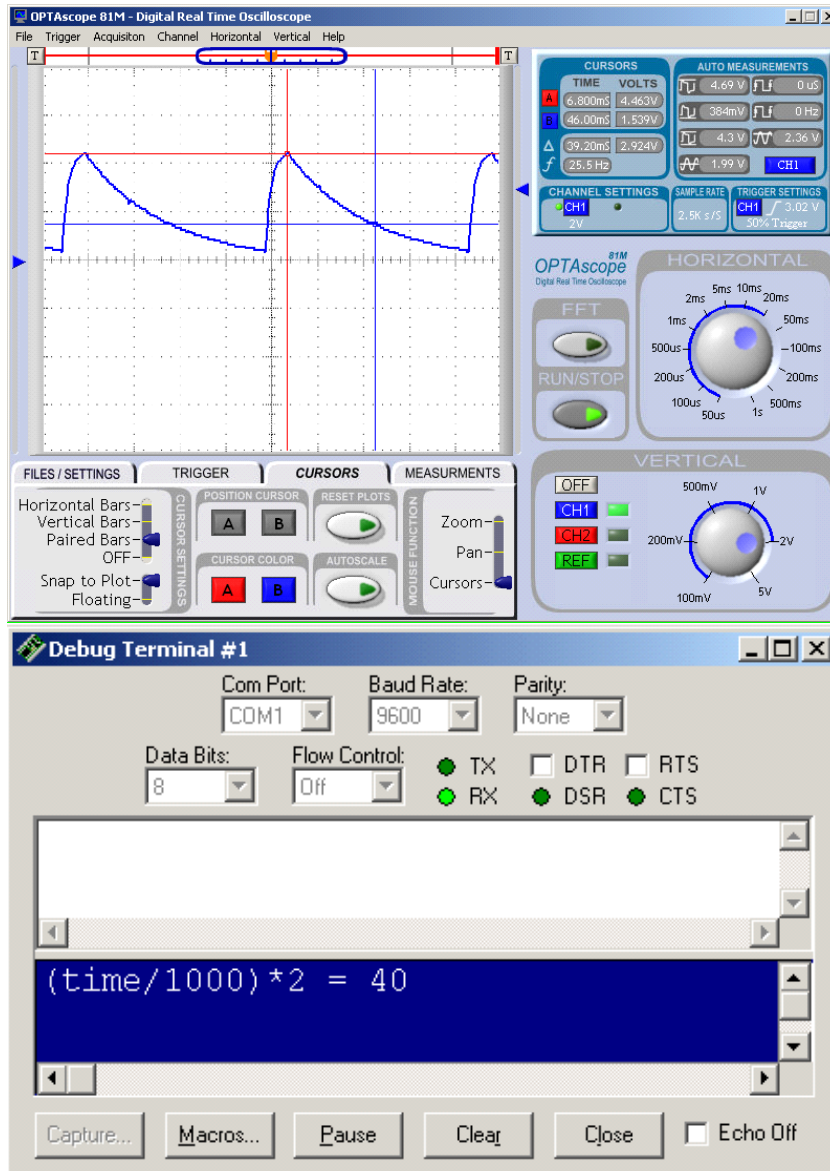

Figure 4-12: Using the Paired Bars cursors to measure capacitor discharge time
- √ Configure, resize, and reposition your PC display so the OPTAscope software is running side-by-side with the BASIC Stamp Debug display (Figure 4-12).